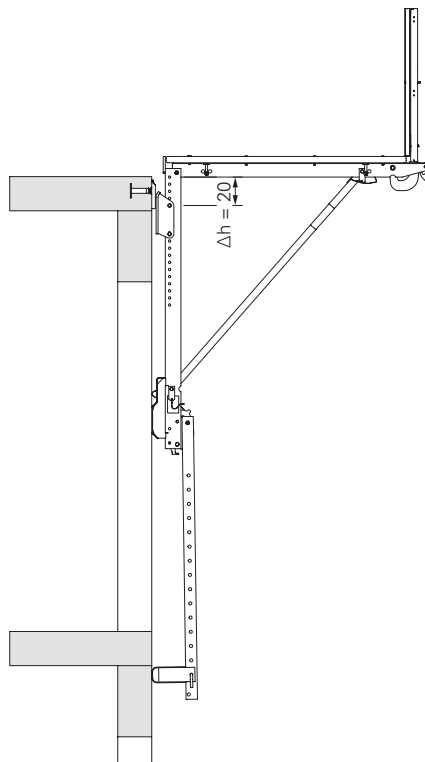

Fig. B1.03
- Load up to Load Class 2: max. height adjustment $\Delta h = 20$ cm. (Fig. B1.03)